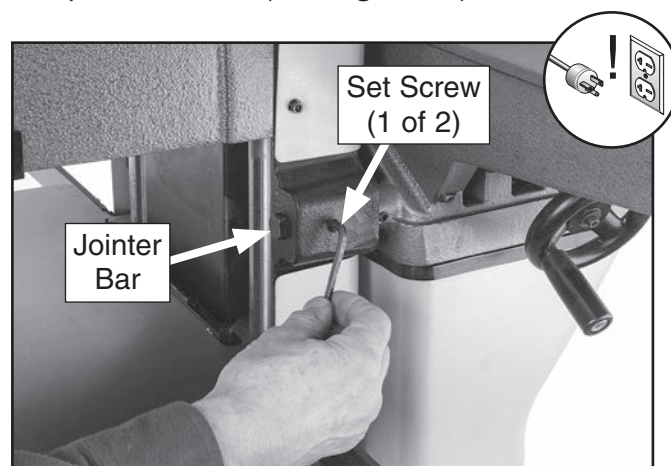

Figure 51. Jointer bar set screw location (1 of 2).
4. Loosen set screws securing jointer bars to planer cabinet (see **Figure 51**).